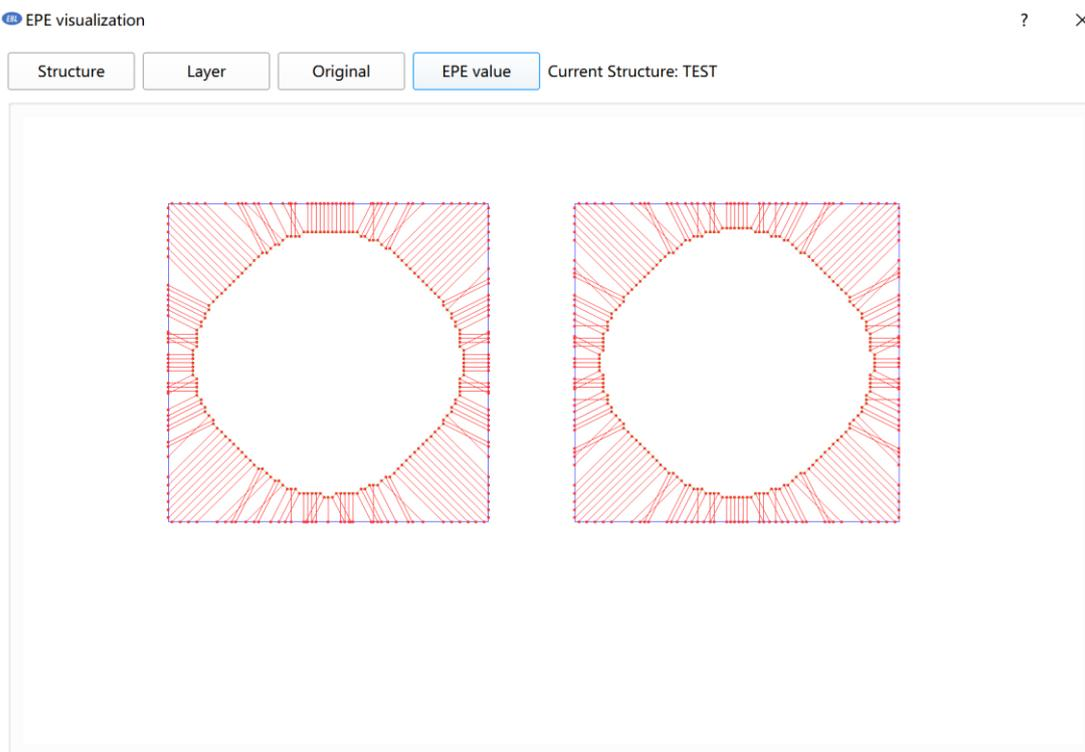

Figure 2.3.3 EPE interface
(2) Set "PSF results" and select a group of Monte Carlo calculation results for edge position error calculation.
(3) Set "PSF parameters" and select the fitting formula, and select the three Gauss formula in the figure below to calculate the edge position error.
(4) The "Matrix Set" setting calculates the minimum size of the divided exposure unit (nm), and 5nm is selected in the following figure. (Note: if the layout is large, the minimum size of the exposure unit should not be too small. If the size is too small and the computer memory is insufficient, a prompt will be given)
(6) You can click "Calculation" (as shown in Figure 2.3.2) to calculate the EPE. If the input parameters are incomplete, the calculation cannot be started. There is a prompt box after calculation (as shown in Figure 2.3.3). After calculation, you can click "Done" to close the current window.
(7) After the EPE calculation is completed, you can click "OK" in the dialog box in Figure 2.3.2 to automatically pop up the dialog box displaying the layout EPE calculation results (as shown in Figure 2.3.3) (Note: the layout containing only text pixels cannot calculate the EPE)